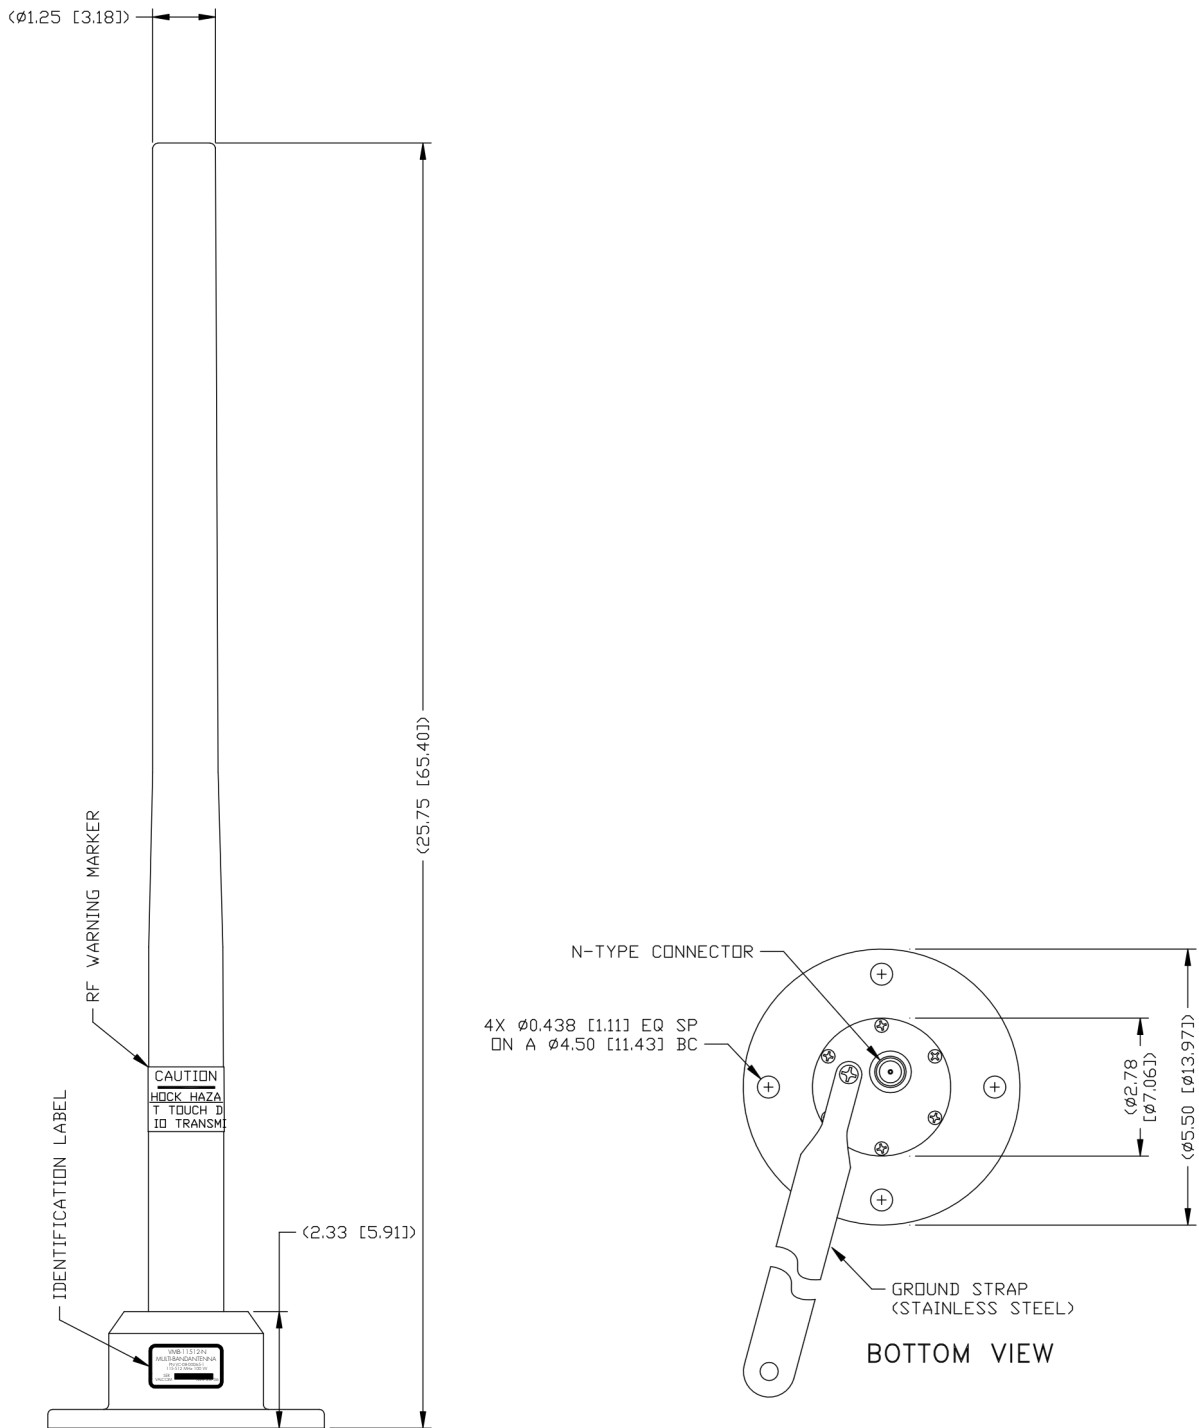

Figure 4.1 - VHF/UHF Antenna VMB-11512-N
**General Description** . The antenna, shown in Figure 4.1 is a 25.75 inch VHF/UHF